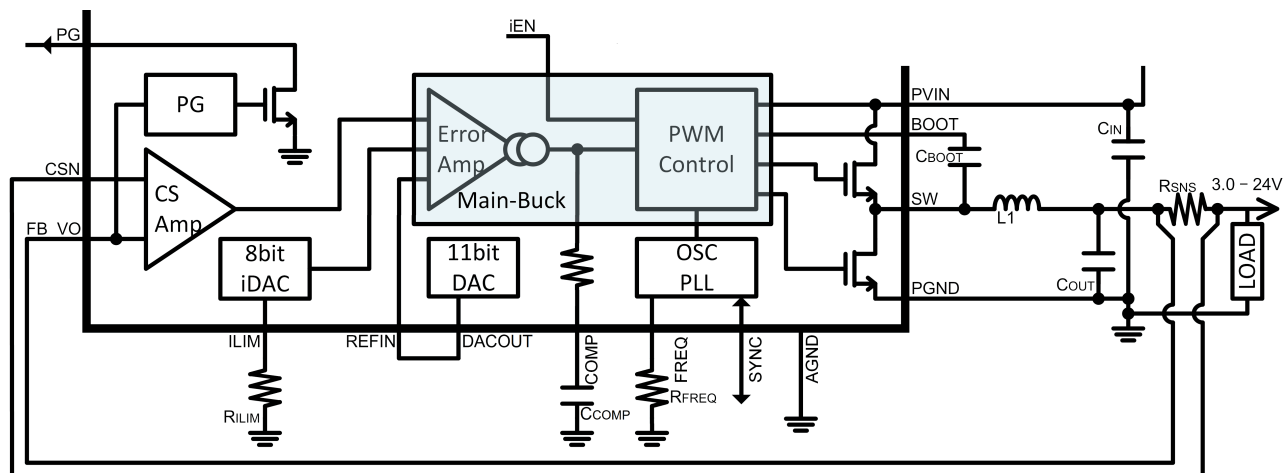

Figure 50. Main-buck Regulator
A compensation network is required between the COMP pin and the ground. See Figure 50 and Main-buck Compensation Network.
The ACT4751M provides a current sense (CS) amplifier to monitor its output current,  $I_{OUT}$ , precisely for the Programmable Current Limit and Over-Current Protection blocks. This CS amp uses the FB\_VO pin and the CSN pin (current sense negative) as its differential inputs and generates a device internal signal,  $V_{CS}$  with a gain of 20, by following the Eq.\(10\). As shown in Figure 50, the FB\_VO and the CSN pins are monitoring an external current sense resistor  $R_{CS}$ .